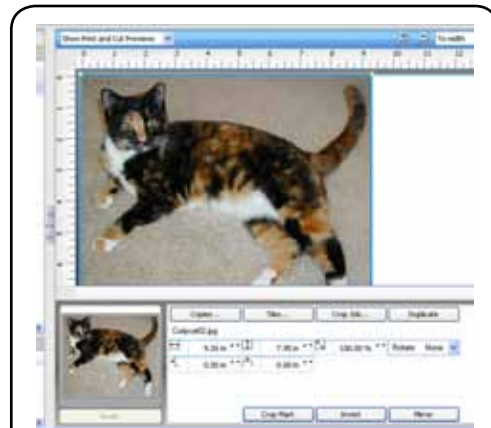

Fig. 26 - The Visual Print Manager previews jobs as they appear on the media.
- **Visual Print Manager** – The Visual Print Manager (Fig. 26) previews jobs as they will appear on the media. Use this functionality to confirm spacing between jobs, positioning of jobs, usage of media, etc., with easy scrolling and zooming to inspect the media.